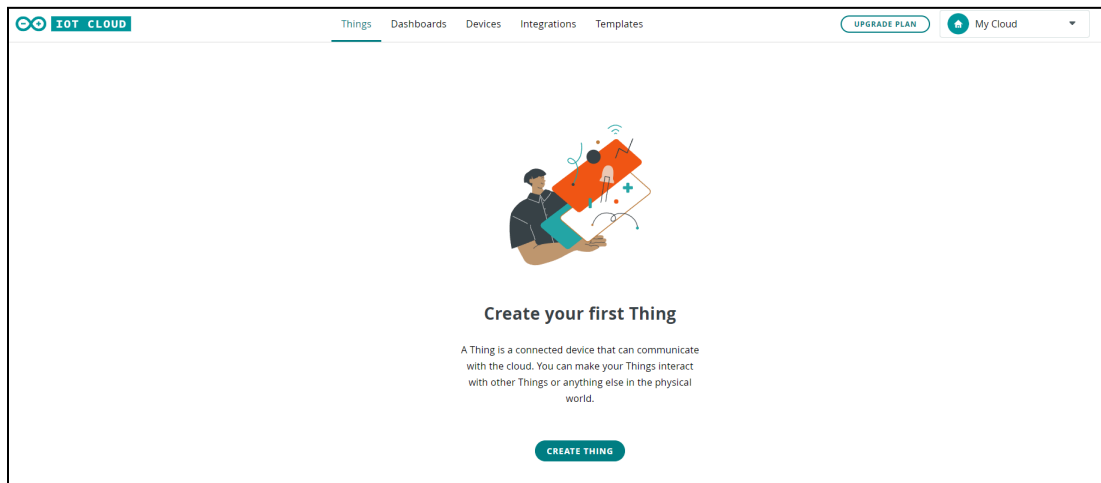

Fig. 12: Thing Tab
1. To create a Thing, you need to click on the "Things" to navigate to the “Things” tab as shown in Fig. 12